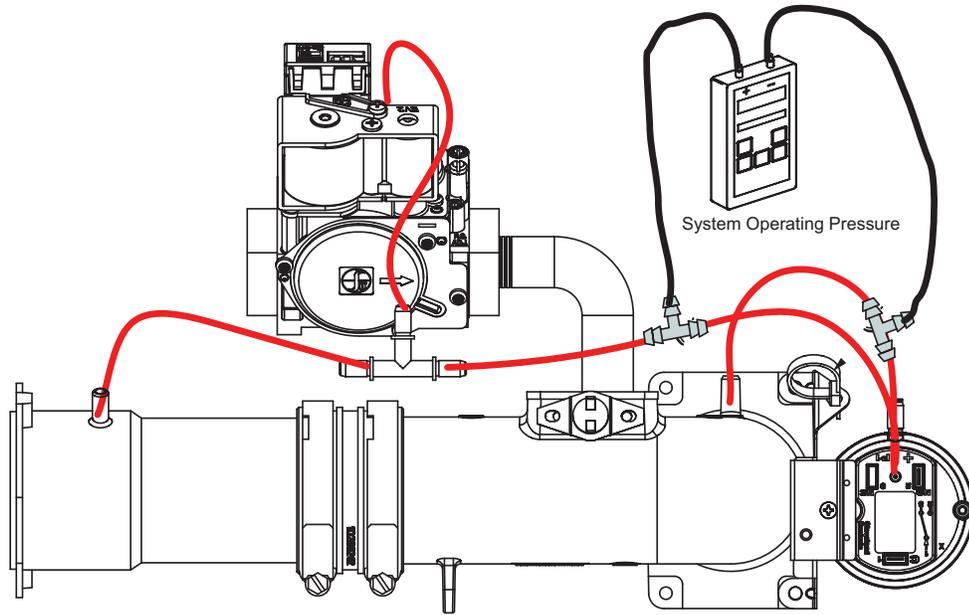

FIGURE 24
- 3 - Install hoses and meter as shown in figures 24 and 25 for system operating pressure measurement. The system operating pressure is monitored by the pressure switch and is the pressure drop across the air orifice.